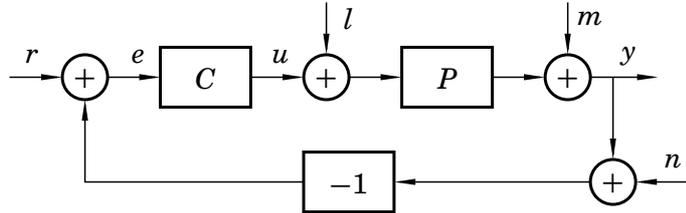

Figure 2 Figure belonging to Problem 3.
3. Consider the block diagram for the dynamic system in Figure 2. For perfect reference following one might like to have that the complementary sensitivity function $T(i\omega) = 1$ for all frequencies ω . However, give at least one reason for why this is in general not desirable (also in general not feasible). (1 p)